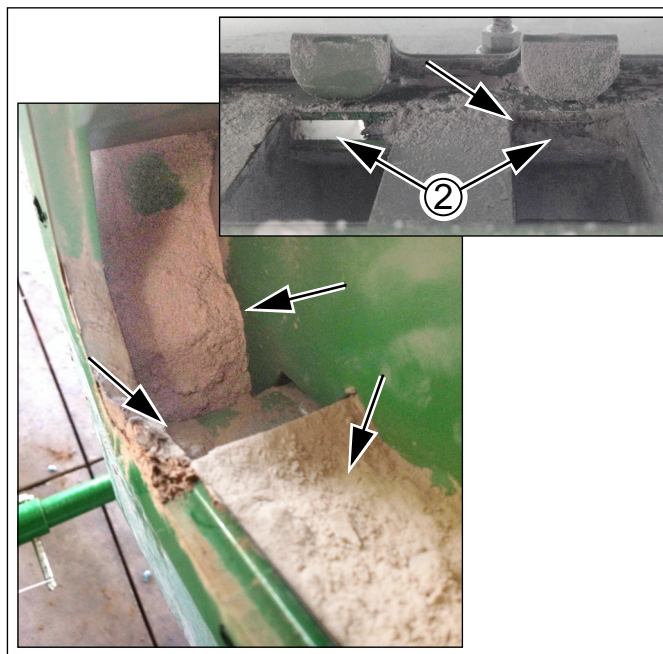
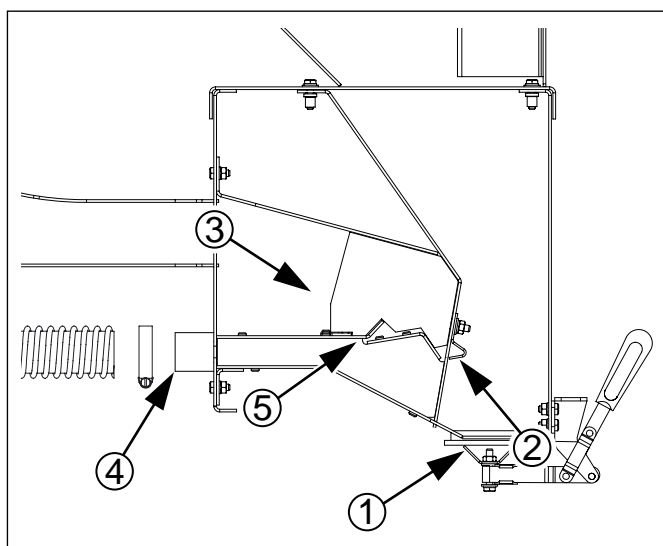

Figure 87
Figure 88
*Refer to Figure 87 and Figure 88 (Figure 87 depicts a partially and a completely plugged agitation port, and build-up in the RH plenum chamber)*